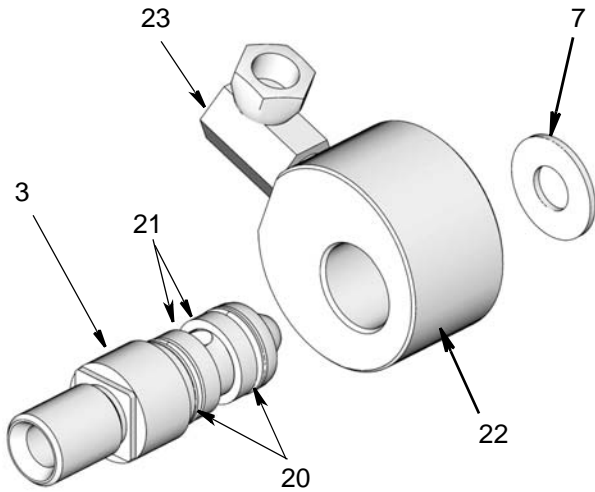

FIG. 6
9. Lay hose reel with spool side down so you can easily access the remaining installed guide arm and pedestal (24 / 30). Remove long bolt (18) and washers (15 / 16).
**NOTE:** The swivel assembly is held in place by the tension created when bolt (18) is tightened and secured in place. When this tension is removed by loosening the bolt, the swivel and swivel shaft assembly parts (3 / 22) and washer (7) may come apart (FIG. 6).